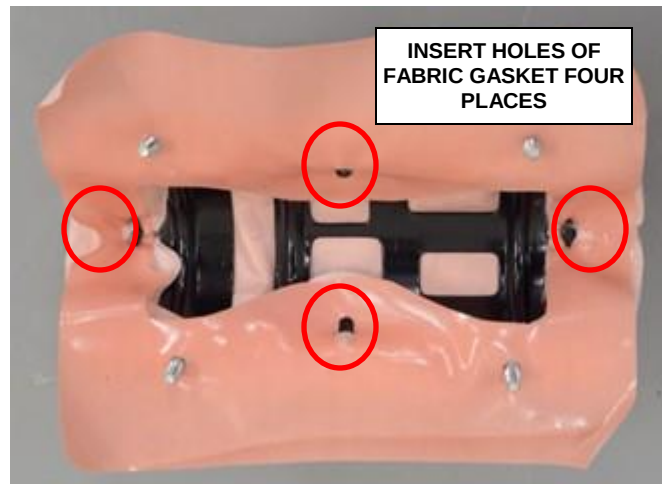

Figure 102 – Fabric Gasket
- g. Slide the inflator out of the housing (Figure 102).